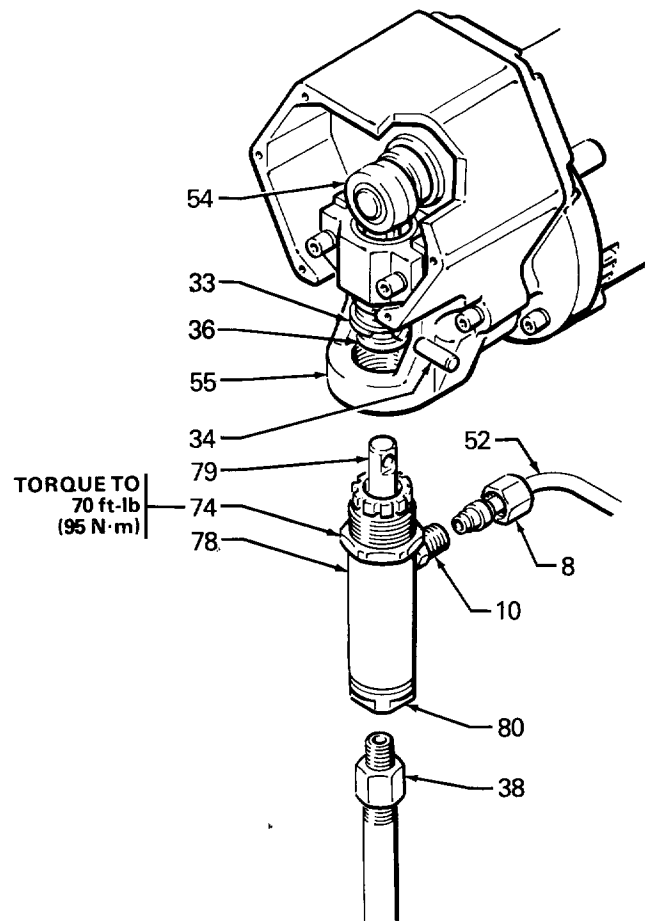
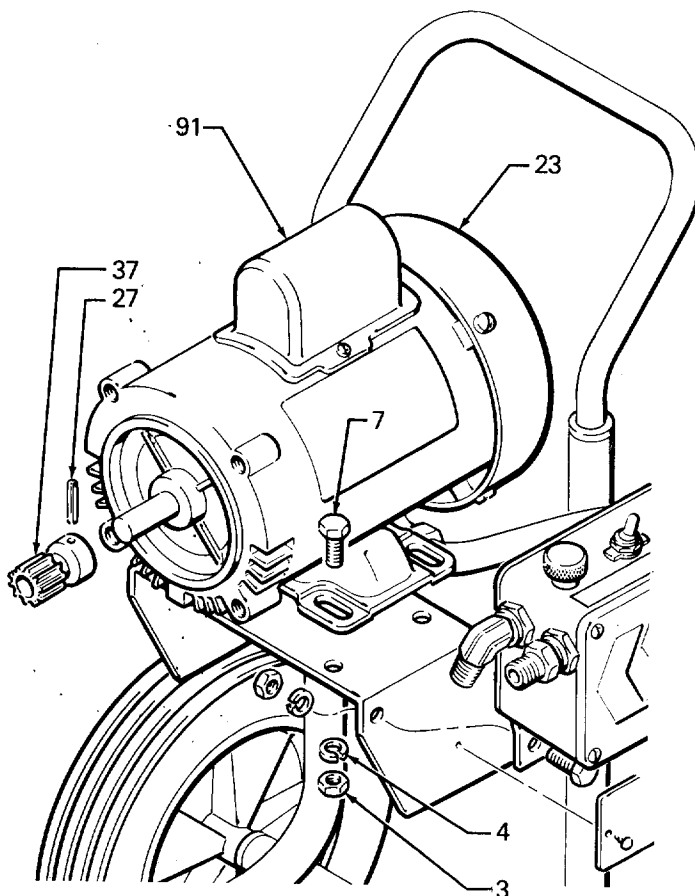
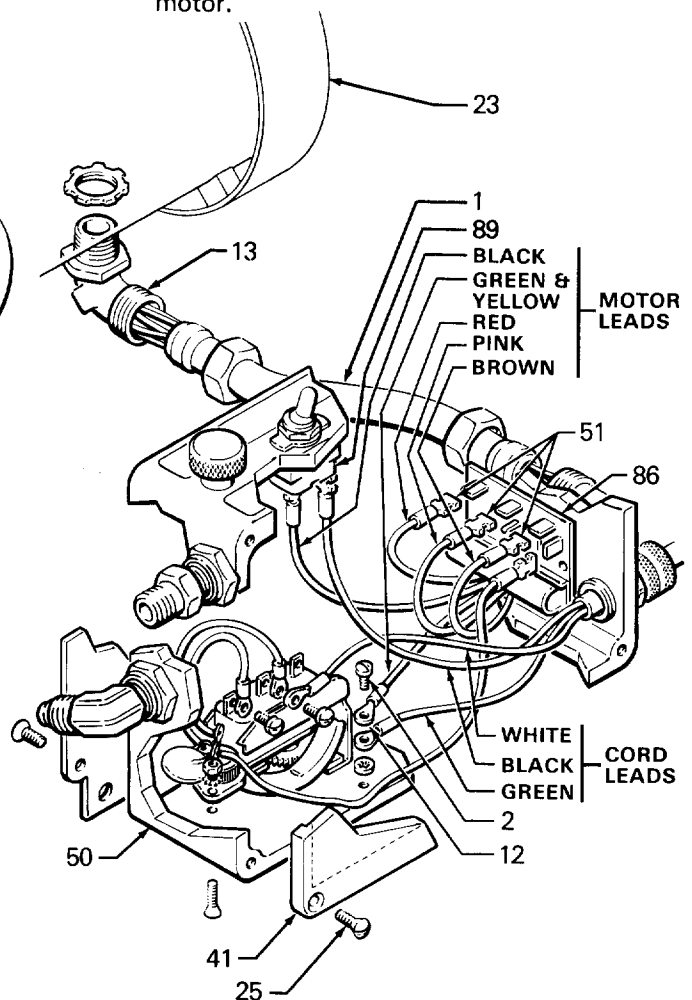

Fig 14
Fig 20
Fig 21
Unscrew adapter (38) from pump. See Fig 14. Use a wrench on the pump intake valve (80) to keep it from loosening.
Unscrew the tube fitting nut (8) from male connector (10) and remove tube (52). See Fig 14.
Remove two screws and the cover of capacitor (91). See Fig 20. Remove flag connectors from old capacitor. Connect flag connectors of new capacitor and replace cover.
Disconnect tube fitting nut (8) from connector (10). See Fig 14. Remove drive assembly as described on page 6. You can leave pump, connecting rod and bearing assembled to drive assembly. Drive out pin (27) and remove gear (37). See Fig 20. Remove screws (25) and cover (41) from pressure control (50). See Fig 21. Disconnect red, pink and brown motor leads from circuit board (86). Disconnect green and yellow motor lead from grounding screw (2) and black motor lead from toggle switch (89).
Unscrew nuts on both ends of conduit (1) from connectors. Remove screws (7), nuts (3) and lockwashers (4). See Fig 20. Remove motor from frame while carefully guiding wires through connector in control box. Remove conduit (1) from wires.
NOTE: Terminals (12 and 51) are not included with a new motor (23). Order these separately and crimp to motor leads as shown in Fig 21. Circuit board (86) is included with a new motor.